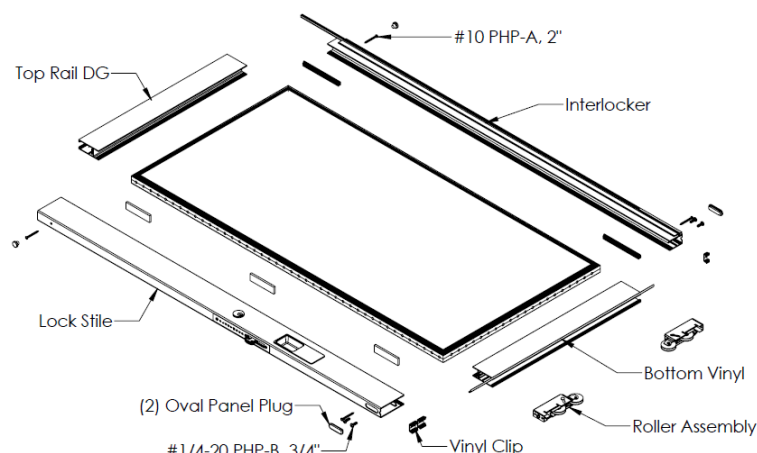

Figure 3:
3. Confirm Bottom Vinyl Sill Wipe is installed into the top groove of the bottom rail and crimped into the vinyl clip (See Figure 3). Leave at 3-7/8" long on the lock stile and 2" on the interlocker side.
5. Position the Lead stile, latch activation hardware facing down, and drive it onto the glass (Figure 3).
6. Secure the stiles to the rails with four (4) #10 PHP-A x 2" and four (4) 1/4"-20 PHP-B x 1/2".